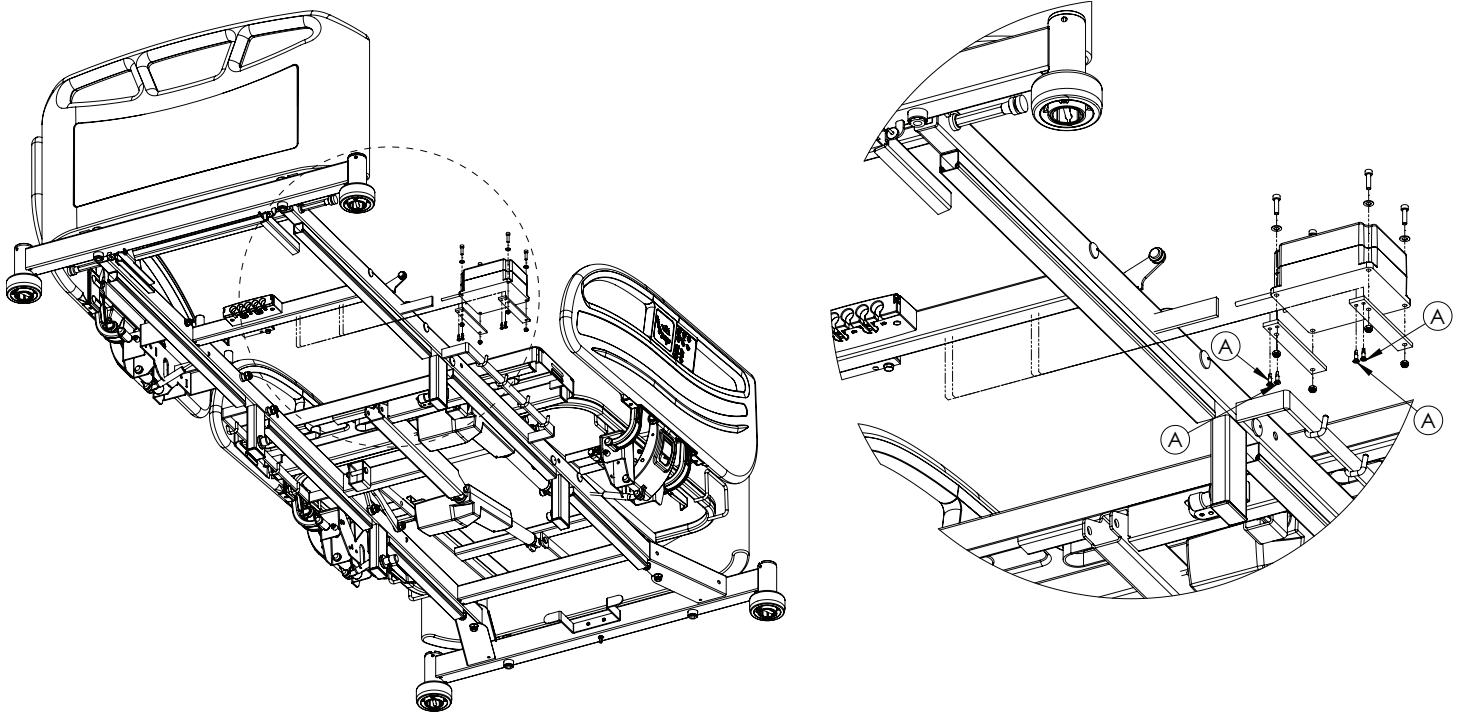

Figure 14 – Battery
6. Using a #2 Phillips screwdriver, unscrew the four screws (A) that secure the battery to the litter frame (Figure 14).